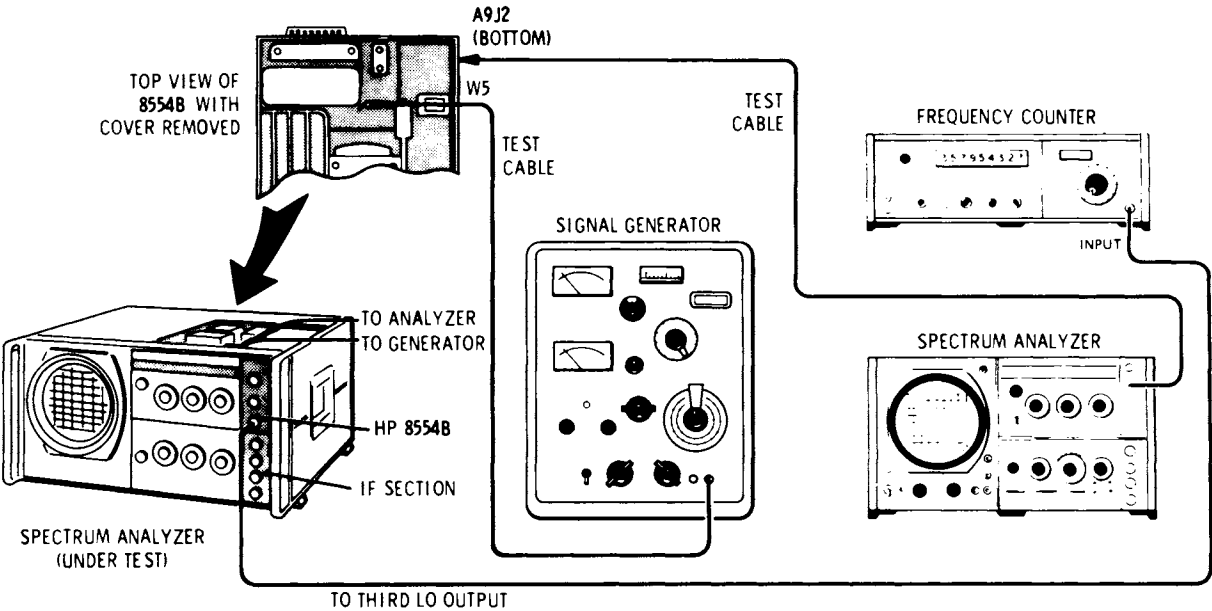

Figure 5-3. 550 MHz Amplifier and Bandpass Filter Adjustment Test Setup
1. Connect the equipment as shown in Figure 5-3 and make the following control settings: